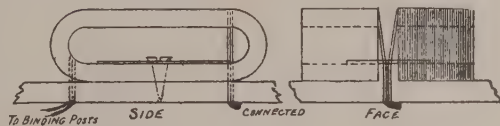

FIG. 3.
2. The coil (Fig. 3) is wound same as shown—best done on a wooden form one part at a time—both parts together having a resistance of $\frac{1}{2}$ ohm. After winding, a tie wire should be fastened at each end of each part, to hold wires together. The two outside wires are joined, put through hole in cherry base made for their reception, and turned over, partially keeping coil in place; the two inside wires are run through other holes, and one run to each binding post, as shown.